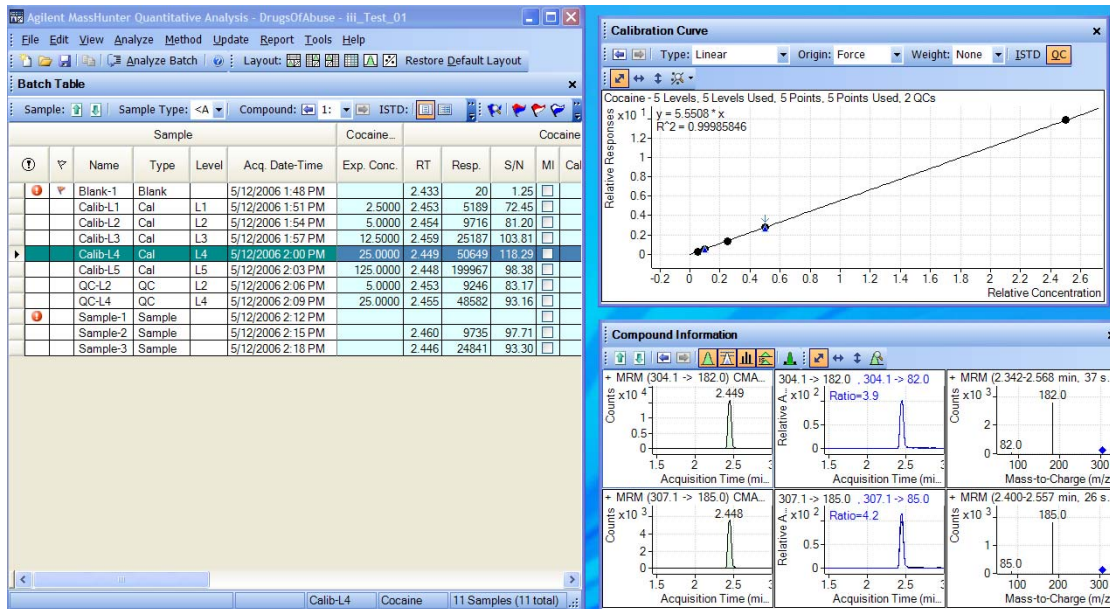

Figure 9 Display with Calibration Curve and Compound Information windows floating
- 6 Create the layout as shown in Figure 9 on page 53, with the **Calibration Curve** and **Compound Information** windows floating. Hint: More than the **Batch Table** is on the left.
- Resize the windows to match the layout in Figure 9.